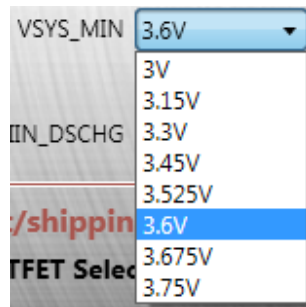

Figure 15: Setting the V_{sys_min} Threshold
- The default value is 3.6V (see Figure 15).